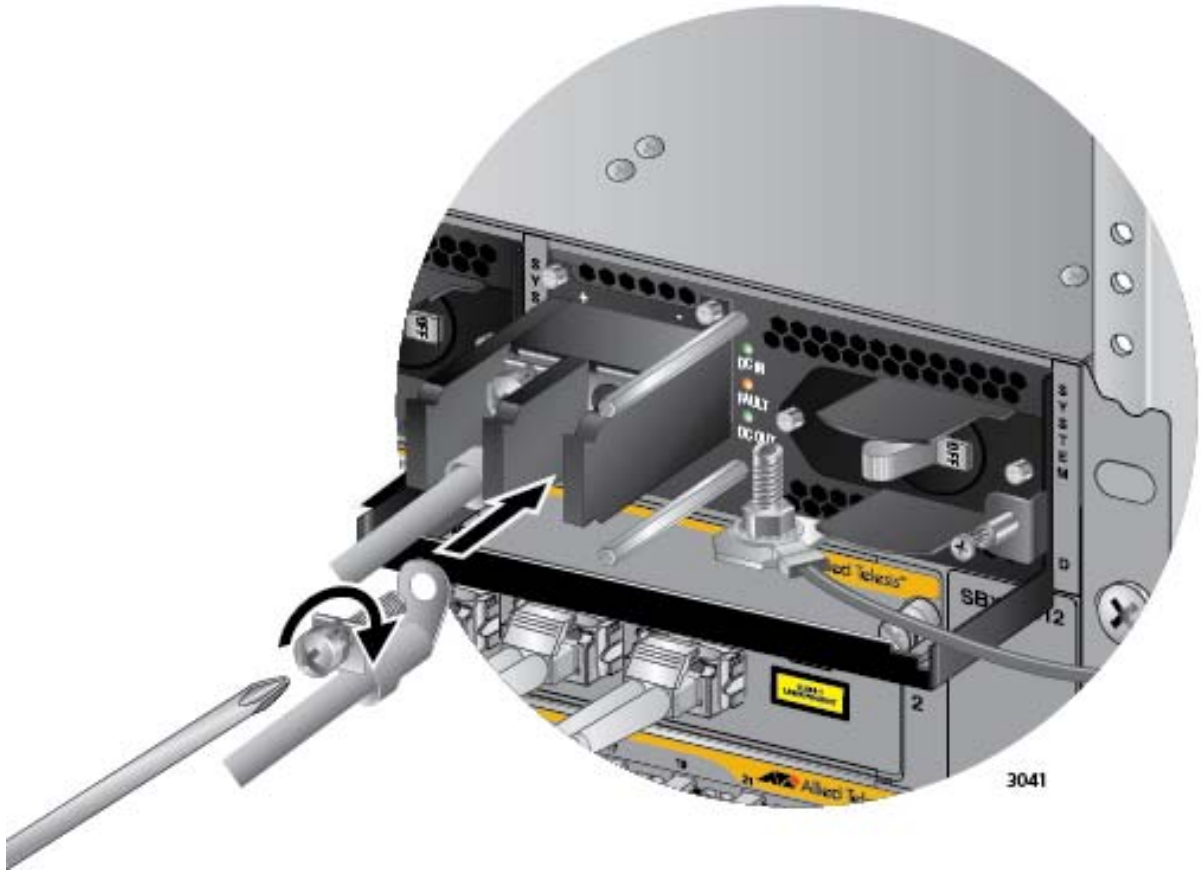

Figure 123. Connecting the Negative (-) Power Wire with a Right Angle Terminal
7. With a #3 Phillips-head screwdriver, connect the negative (-) power lead wire to the negative terminal on the power supply, with the remaining terminal screw removed in step 5. The negative terminal is on the right. Refer to Figure 123 on page 169.